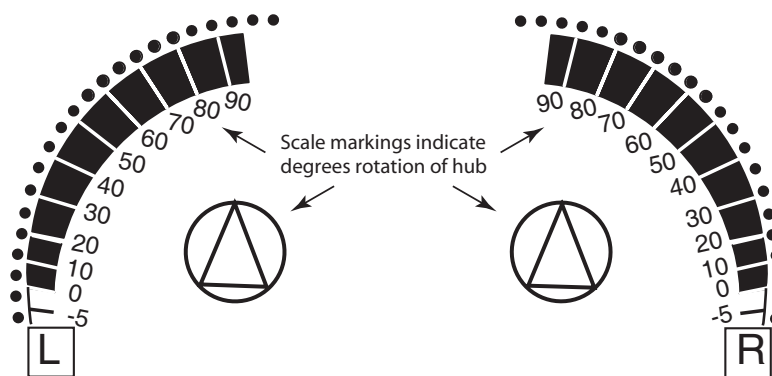

Figure 8 Position Indicator
- When operating manual override (observe position indicator, Figure 8), back off 5° (½ turn counter clockwise) from full extended mechanical stop to ensure proper release.